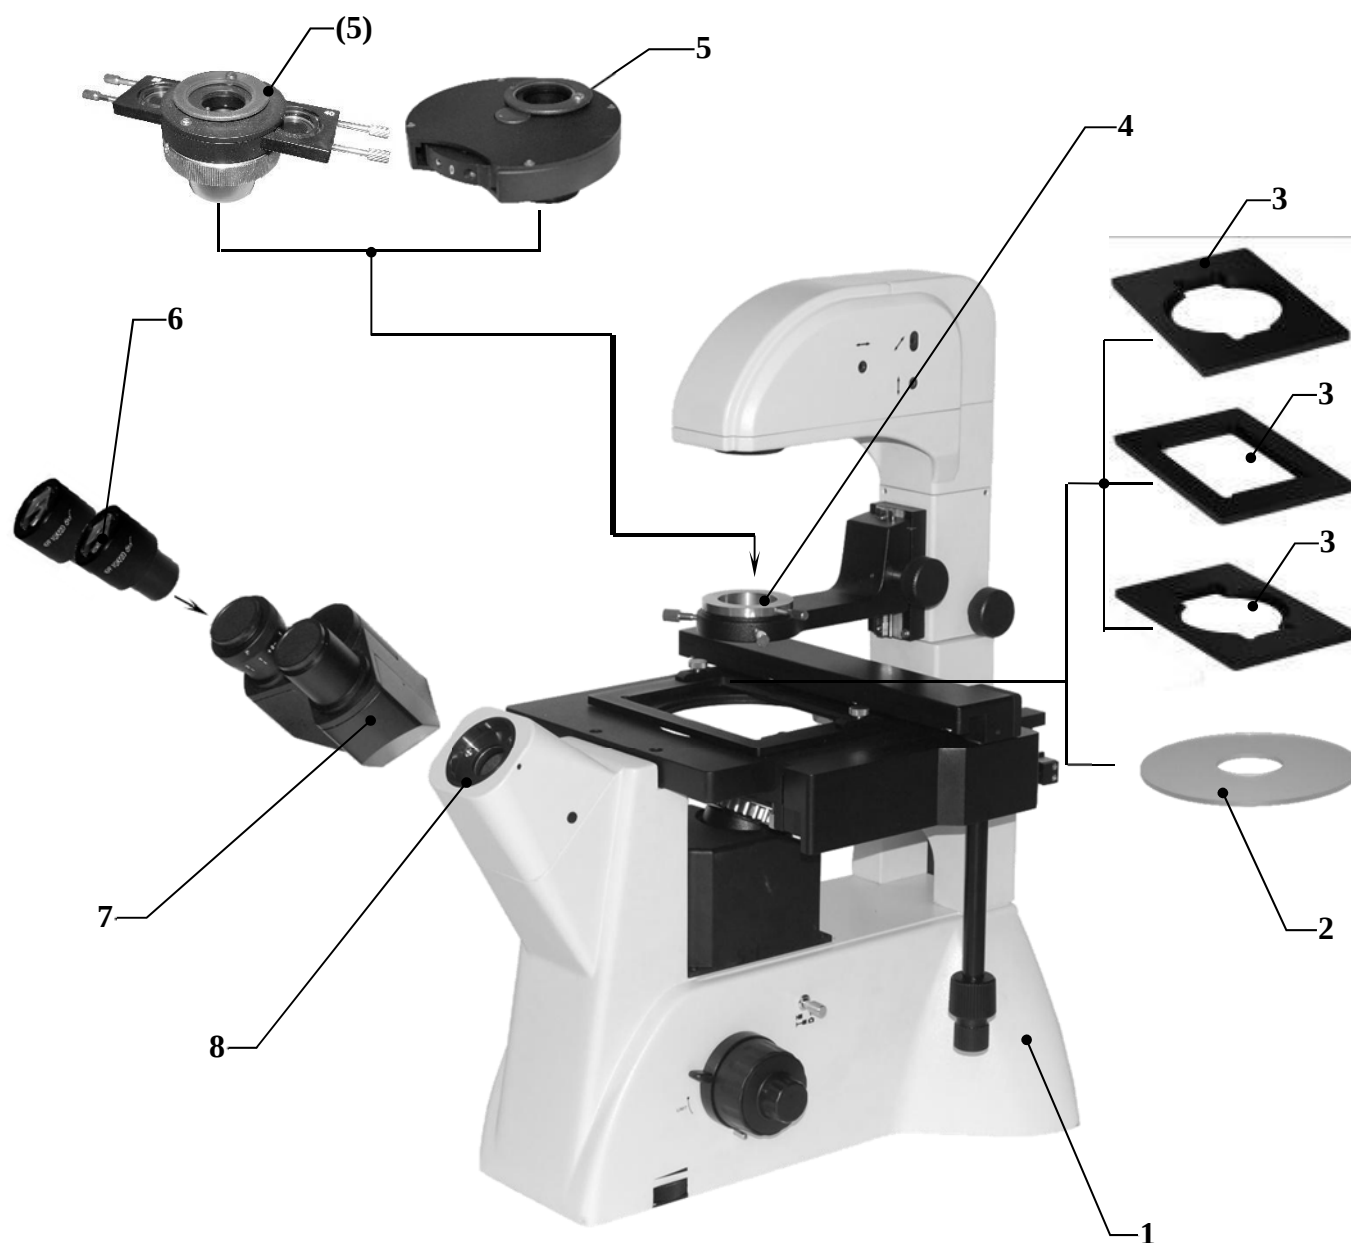

Fig.2
2. Installation steps (As shown in Fig.2)